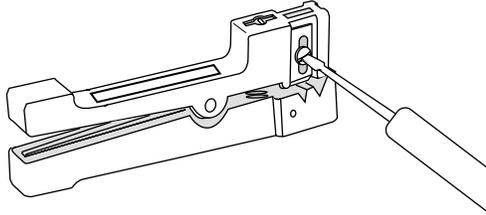

Figure 7
**5.2** Before using the small Ideal stripper, make sure that it is properly adjusted. Use a screwdriver to adjust *one* of the blades on the side of the buffer tube cutter so that it seats against the lower jaw but does not force the jaw open (Figure 7).